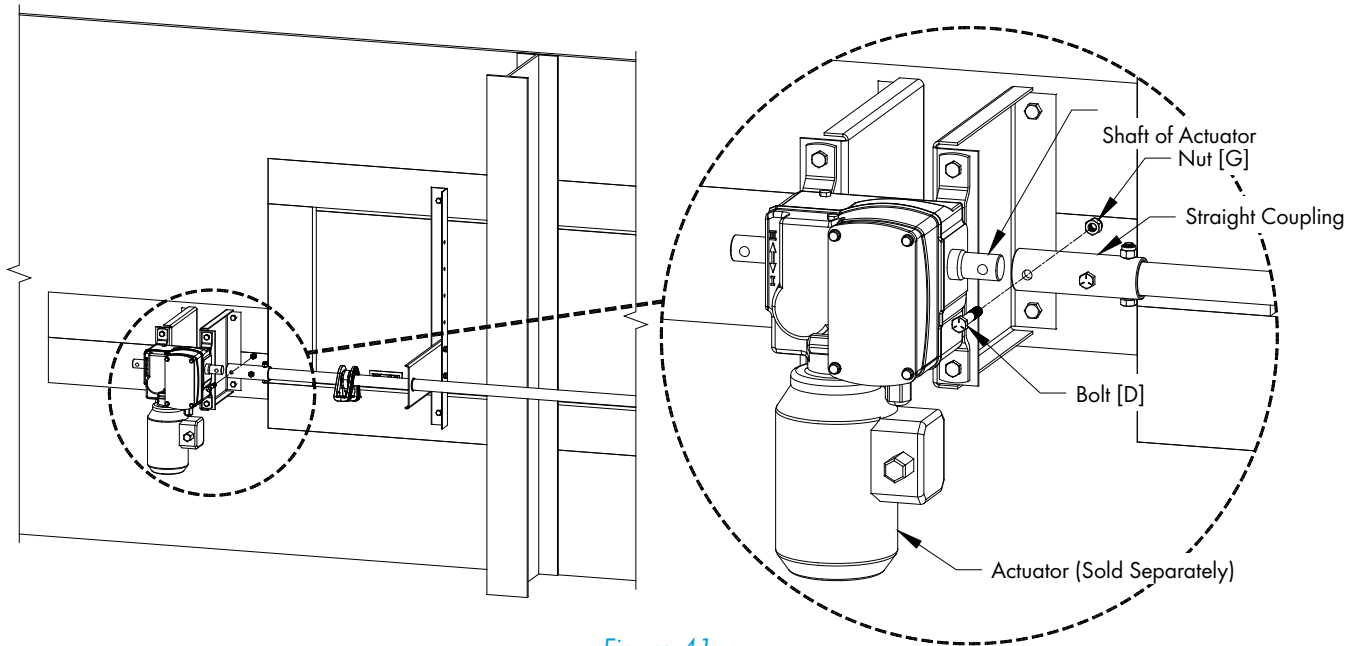

Figure 41
Align the hole in the Straight Coupling on Drive Pipe with the hole in the Shaft of Actuator and secure with (1) Bolt [D] and Nut [G]. See Figure 41.